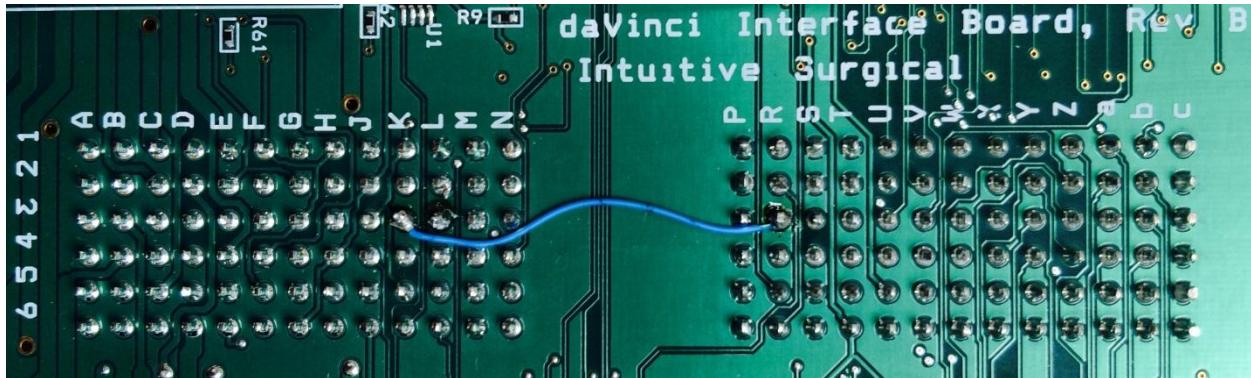

FIGURE 13: DMIB MODIFICATIONS
- Wire pin N3 to back of spare digital input on the side of the board (see Figure 13).